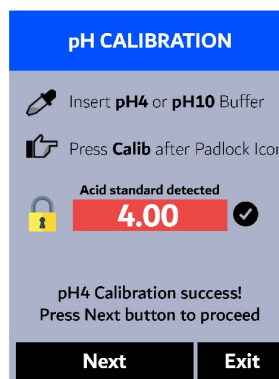

Figure 45.
15. If the calibration succeeds, a checkmark (  ) and a "pH4 Calibration success!" or a "pH10 Calibration success!" message will appear (Figure 45). Otherwise, a warning message is displayed.